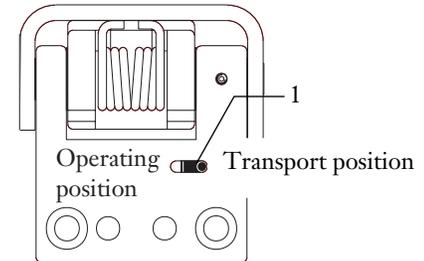

Figure 2
4.1 To open the FBC-012 from its transport position, slide the lock on the back of the cleaver to its operating position (Figure 2).